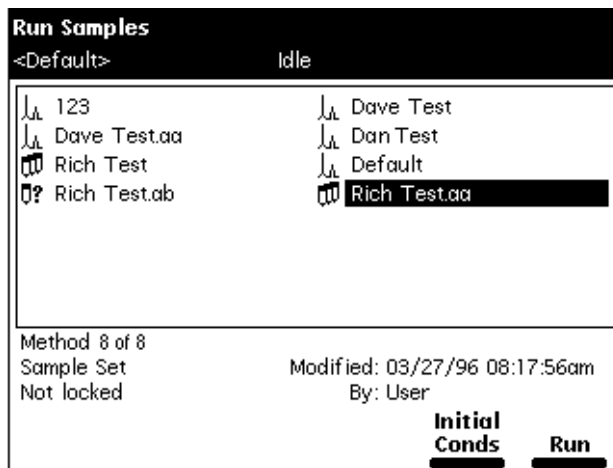

Figure 4-2 Run Samples Screen
1. Press the **Run Samples** screen key in the Main screen (Figure 2-2). The Run Samples screen appears (Figure 4-2). Table 4-1 describes the icons used in the Run Samples screen.
1. Press the **Run Samples** screen key in the Main screen. The Run Samples screen appears (Figure 4-2).
2. Press the **Run Samples** screen key in the Main screen. The Run Samples screen appears (Figure 4-2).